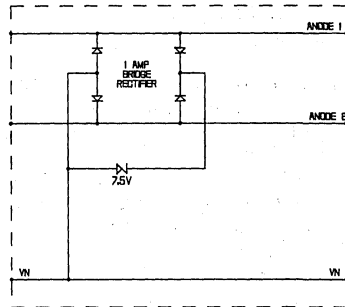

Fig.10 NO BRIGHTNESS CONTROL
1. No brightness control Fig.10